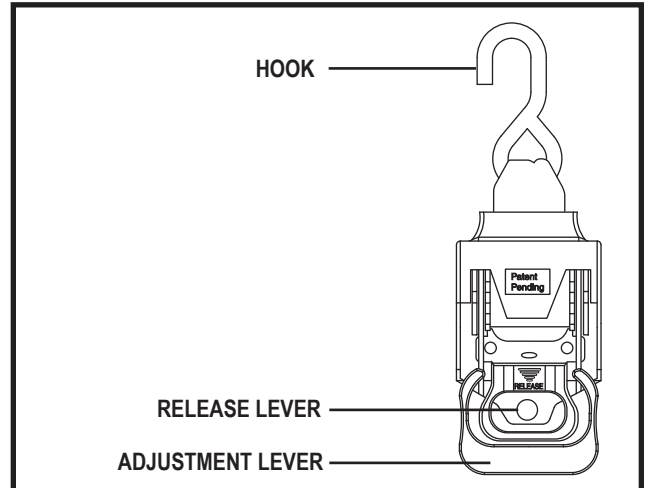

Figure 14. Retractable Tie-down Strap
- Squeeze together the release and adjustment levers on the retractable tie-down strap and simultaneously bring both levers forward to a 90-degree position until they “click” then lock into place. This will unlock the tie-down strap. **See figures 14 and 15.**
- Once each strap is secured in the proper position, squeeze together the release and adjustment levers and simultaneously bring both levers rearward to their original positions. This will lock the tie-down strap. **See figures 14 and 15.**